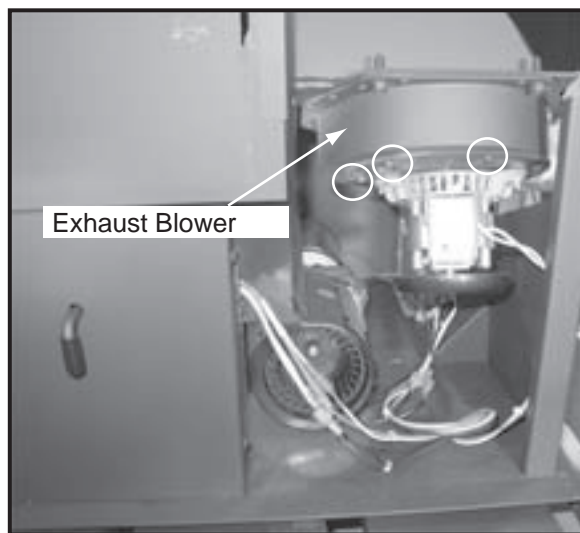

Figure 19.1
4. There is a removable plate on the exhaust blower. Depending on the model, use a 1/4 inch socket, or 1/4 inch Nut Driver or #2 Phillips Head screw driver to loosen the 6 screws in the keyhole shaped holes and rotate the plate. It is only necessary to loosen screws. **Figure 19.1.**